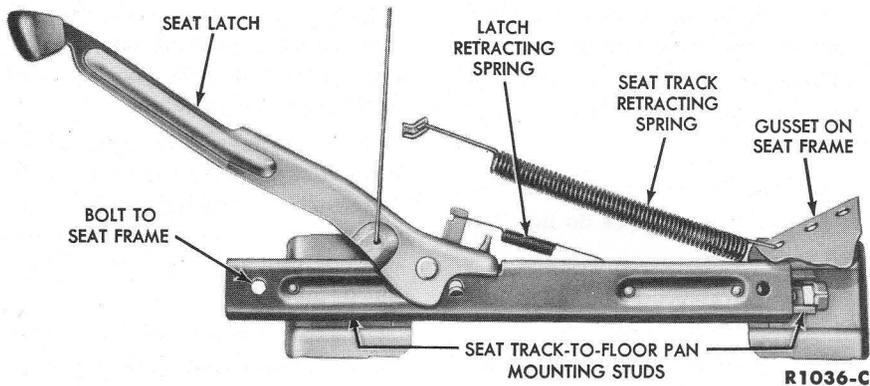

FIG. 3—Front Seat Mechanism
1. Disconnect and remove the front seat retracting springs from the seat track (Fig. 3).